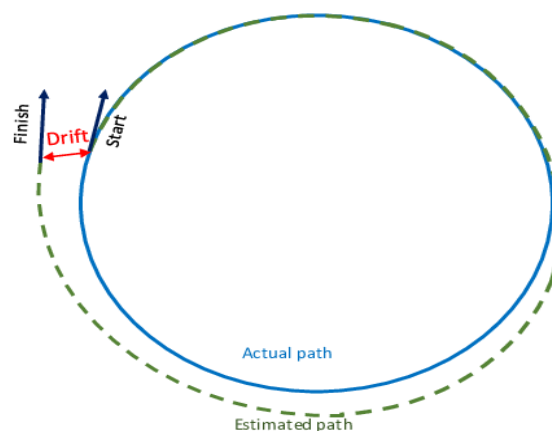

Figure 1: Testing efficiency of the LOAM algorithm
- 2) The robot can be driven back along the same straight path and brought to the initial position. The drift between the predicted location and actual odometry can be measured using a measuring tape. Figure 1 showcases a suitable drift calculation experiment with a more complicated trajectory.